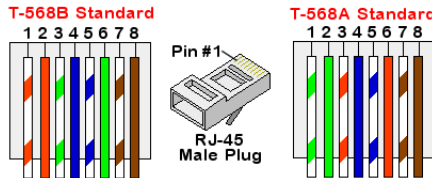

Figure 32: Standard cable wiring
- c. Insert the eight wires into an RJ45 connector, as described in *Figure 32*.
7. For the switch/router side, use a pre-terminated cable or use a crimper to prepare an RJ45 communication connector: Insert the eight wires into the RJ45 connector in the same order as above (*Figure 32*).